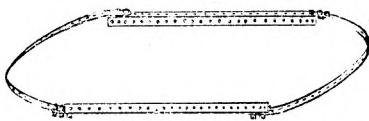

Fig. 2. Side frame after fixing Angle Bars.
(3) Take two of these frames, and then force in 12 in. angle bars at top and bottom as shown in Fig. 2, so that the framework assumes its correct shape.
(4) Take one of the shaped frames and connect to one of the unshaped by 2 in. strips placed at 3 in. intervals. This will give the correct shape to all frames.